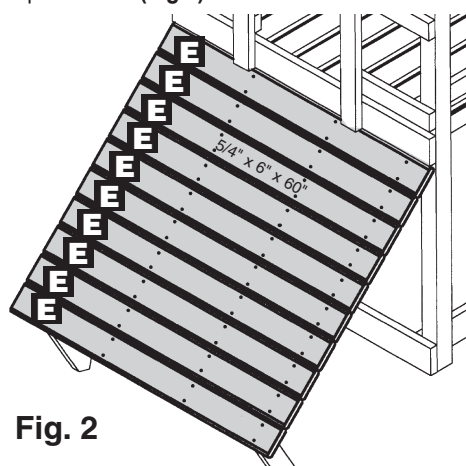

Fig. 2
6. Place first board tight against the bottom of the deck side board with equal overhang on both sides of wall support, approximately 3 1/2". Secure with eight #8 x 2 1/2" deck screws. (Fig. 2)
7. Install next board tight against first, keeping measurements shown in Fig. 1. Secure with eight #8 x 2 1/2" deck screws. (Fig. 2)
8. Repeat for remaining boards. (Fig. 2)